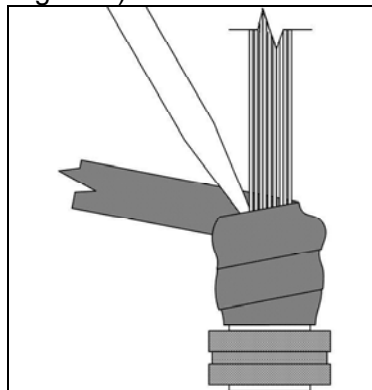

Figure 2
- 3.4.4** Stop wrapping the StretchSeal Tape and hold in place. Inject potting compound into the wire bundle immediately behind the connector rear accessory or through any openings in the rear accessory. (see figure 2)